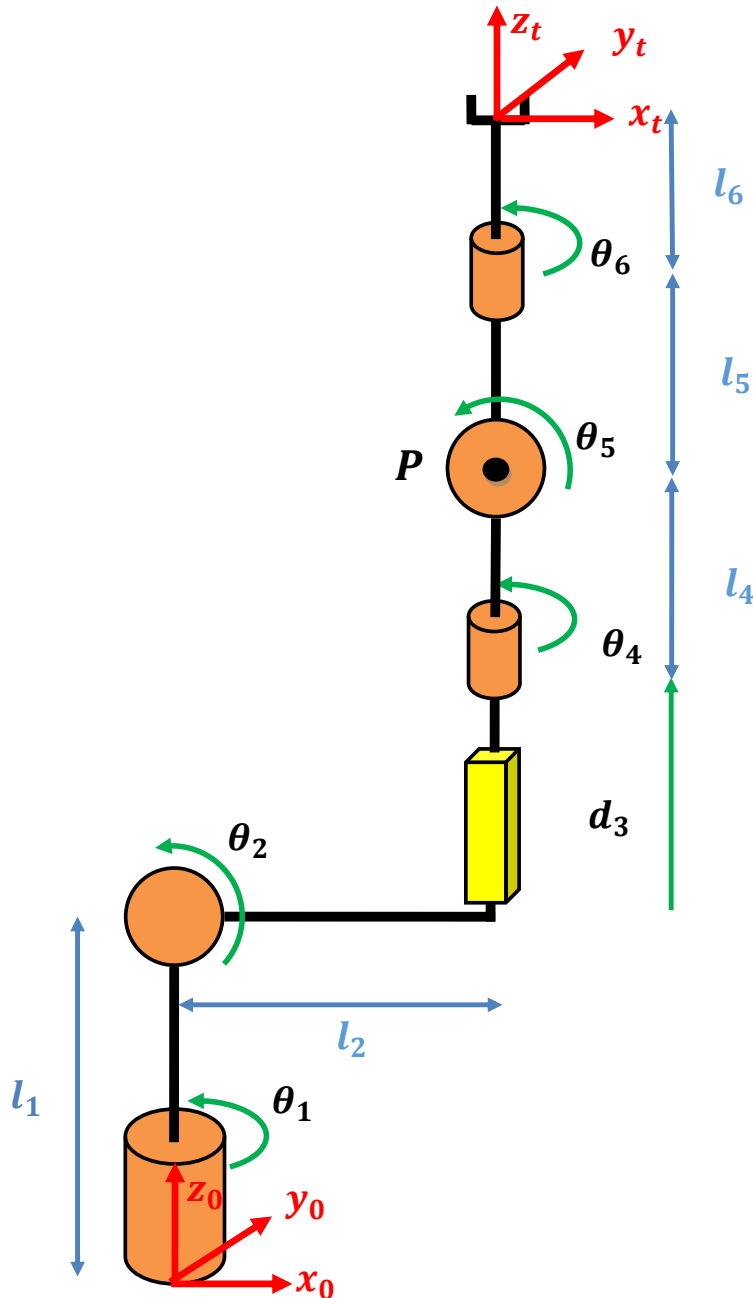

Figure 1: The spatial serial manipulator in his zero position
Figure 1 shows a spatial serial manipulator with 6 DOFs - $\theta_1, \theta_2, d_3, \theta_4, \theta_5, \theta_6$
- The world and tool frames are defined in the figure 1.
Hint - an intermediate point **P** can be used (see Figure 1), solve the first three joints by the position of **P**, the last three joints by the orientation problem of the end effector.